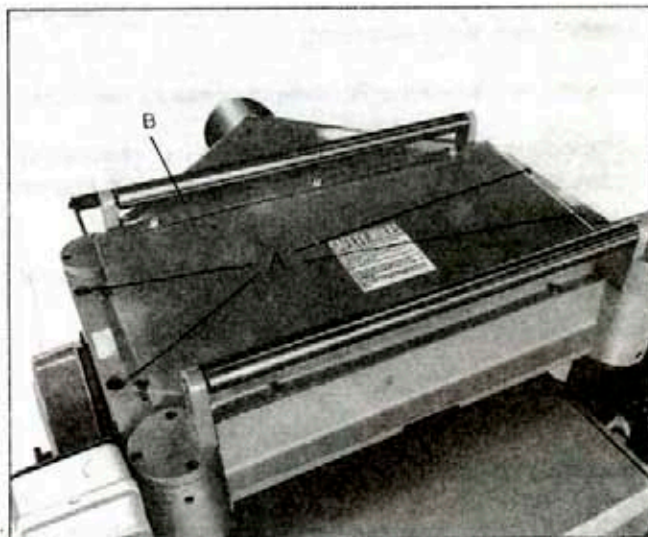

Fig. 20
2. Remove the six screws (A), and remove the upper cover (B) as shown in Fig. 20.
2. Remove six screws (A), and the upper cover (B) as shown in Fig. 20.